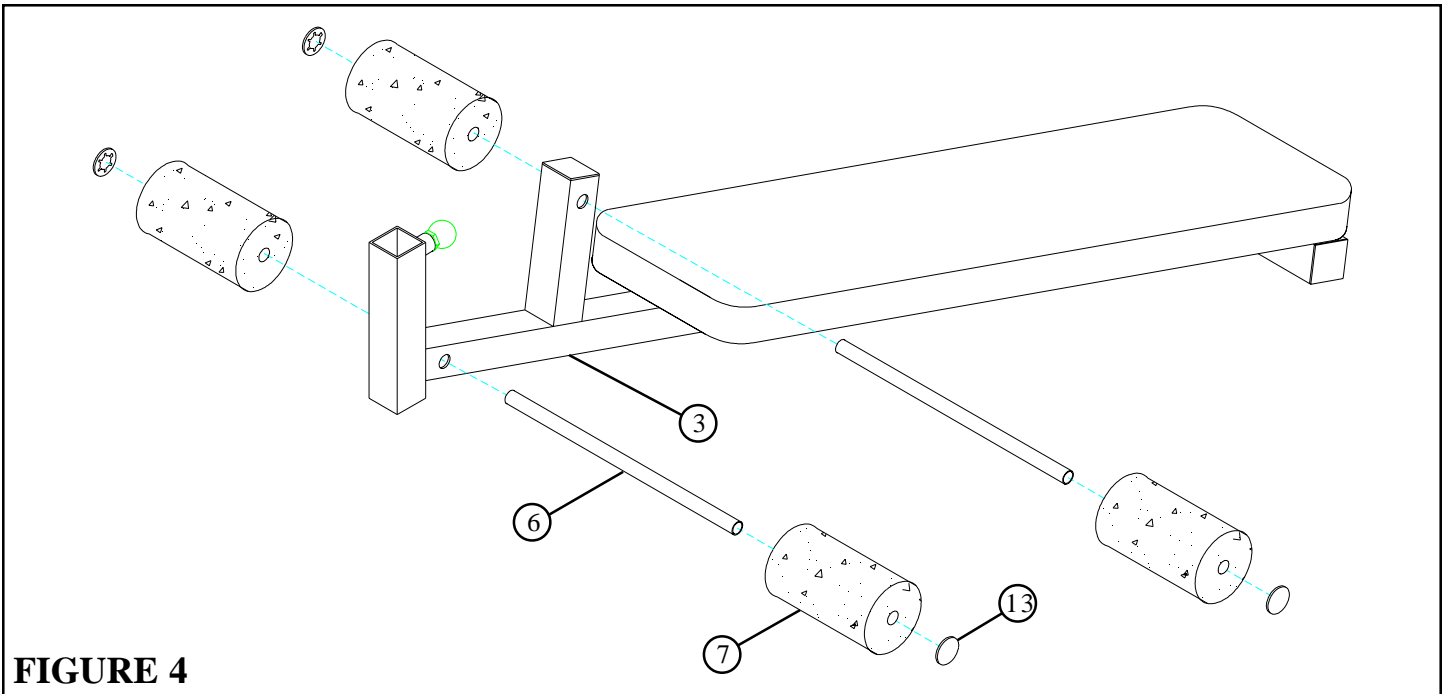

FIGURE 4
- Slide the four ROLLER PADS (7) onto the MAIN PAD SUPPORT (3) using two 3/4 X 16” TUBES (6), and four STARLOCK COLLARS (13) as shown in FIGURE 4.